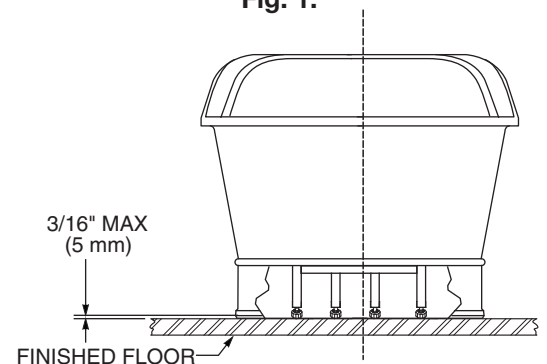

Fig. 2.
- For the Freestanding tub with base, ensure that there is a gap between the tub base and the floor. Gap shall not exceed 3/16" (5 mm). See **Fig. 2**.